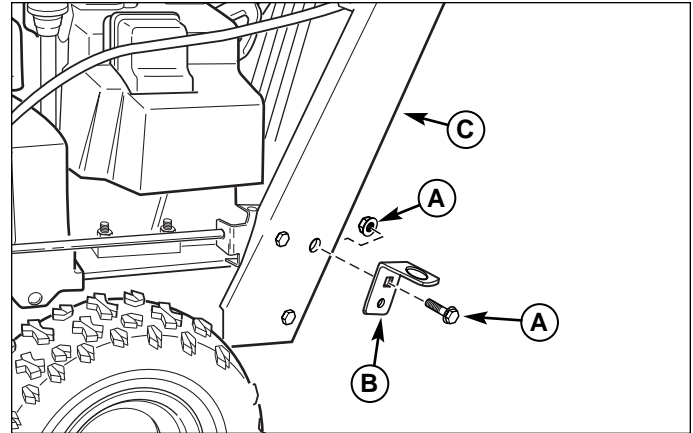
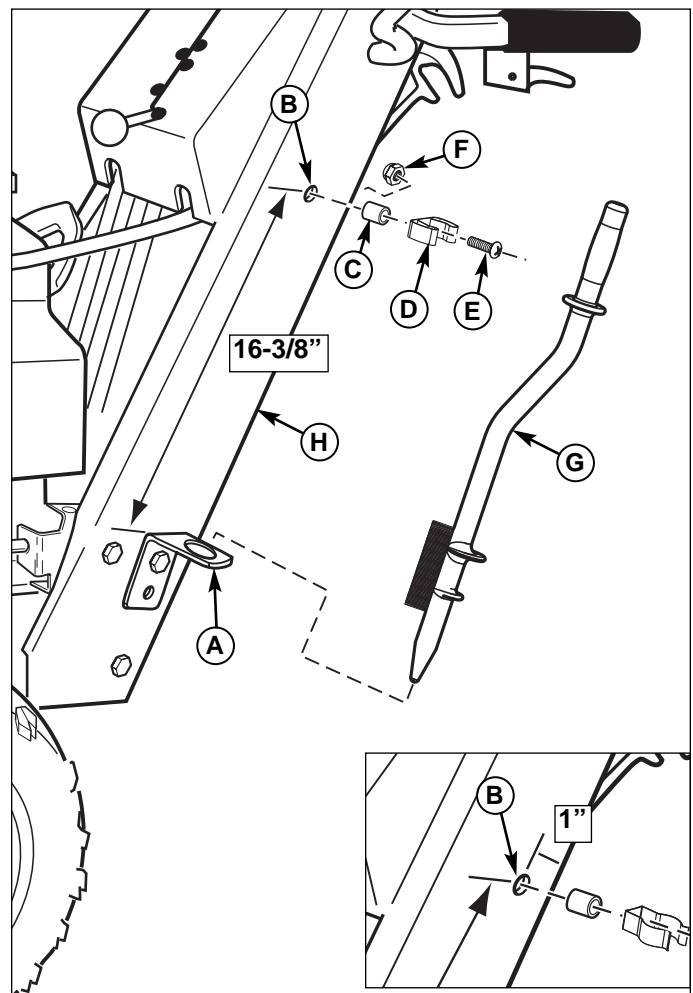

Figure 3. Mounting Lower Bracket (Channel Handle)
Figure 4. Mounting Clean-Out Tool (Channel Handle)
1. Remove existing hardware (A, Figure 3) from upper back hole on left side handle (C) as shown.
2. Using square hole install lower bracket (B) into upper back hole on left side handle (C) as shown. Secure with existing hardware (A).
3. Measure 16-3/8" from top of bracket (A, Figure 4) to center of handle (B). Center punch and drill a new 13/64 hole (B) in handle.
Note: If using a cab with snowthrower locate hole (B) 1" from edge. See inset in Figure 4.
4. Attach clip (D) to handle (H) securing with #10-24 x 3/4 screw, 11/32 spacer (C), and #10-24 nut (F) mounting through new hole (B).
5. Attach clean out tool (G) to handle (H) by first placing pointed end into bracket (A), then pushing hand grip into clip (D).